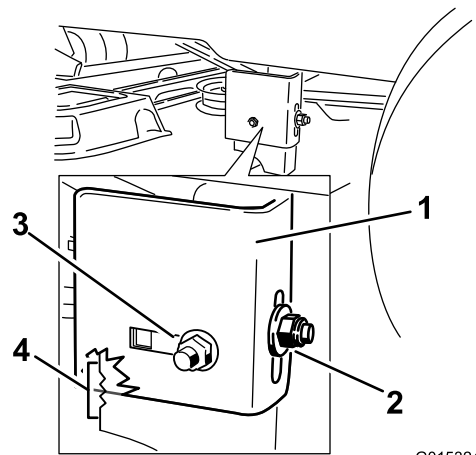

Figure 51
10. Loosen the side locking nut on the hanger bracket just enough to allow the hanger to be adjusted (Figure 51). Use the notches on the welded bracket to measure the amount of adjustment. Each notch surface is
11. Stop the deck at the adjusted position and tighten the rear locking nut on the hanger bracket to hold the new position (Figure 51). Tighten the side locking nut on the hanger bracket.